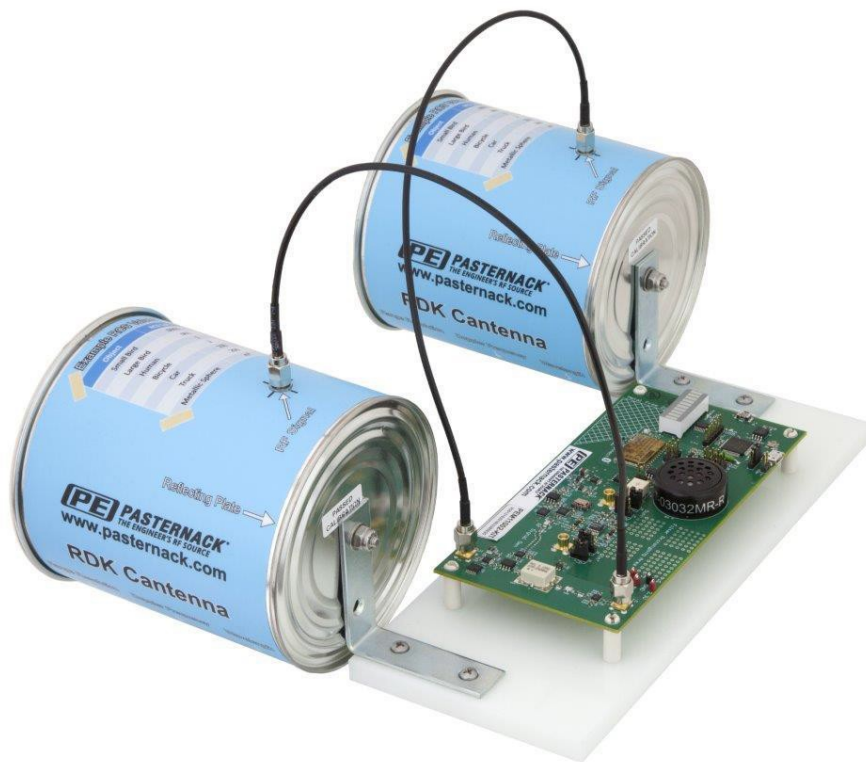

Figure 2: Assembled PEM11002-KIT
- b. The kit should resemble Figure 2 above. You are now ready to connect your PEM11002-KIT to your computer.